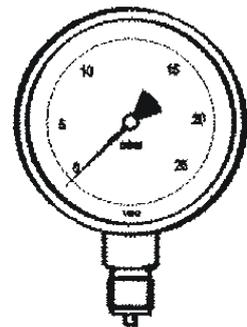
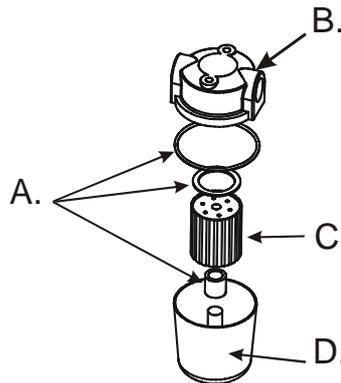

Figure 3 - Manometer.
Figure 4 - Fuel line filter.
1. Make sure that the fuel tank (N Fig. 4) still contains fuel.
WARNING: Before the second ignition (machine extinguished and adequately cold) to assure the blocking of the screws that block the anterior deflector (L Fig. 4).
NOTICE: Before raising or moving the machine ensure that the fuel tank caps (F and H Fig. 3) are firmly closed.
The generator is easy to move and it may be fixed in a raised position thanks to its special eye-bolt mechanism (B Fig. 3 or Fig. 7). This enables it to be set in the most suitable position for heating, defrosting and drying.
Before picking up or moving the machine you must check to insure that the tank caps (G Fig. 3) are tightly shut. The generator may be supplied with a rotating wheel. In this case, if the flooring allows it you may push the generator like a cart. In the case the machine does not have rotating wheels it is necessary to unblock the hinge (P Fig. 4) located on one of the lateral struts of the generator. Lower the handle from its "resting position" (Fig. 8) Turn the handle to the "transportation position" (Fig. 9). Lift the generator and position it so that it is resting on the two anterior wheels.